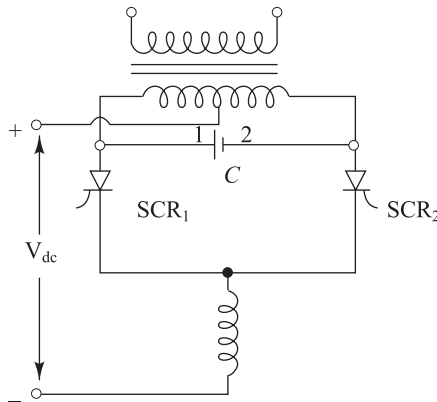

Fig. P.9.8
- 9.8 In the inverter circuit shown in Fig. P 9.8, if the SCRs are fired at delayed angles, the frequency of the output waveform will